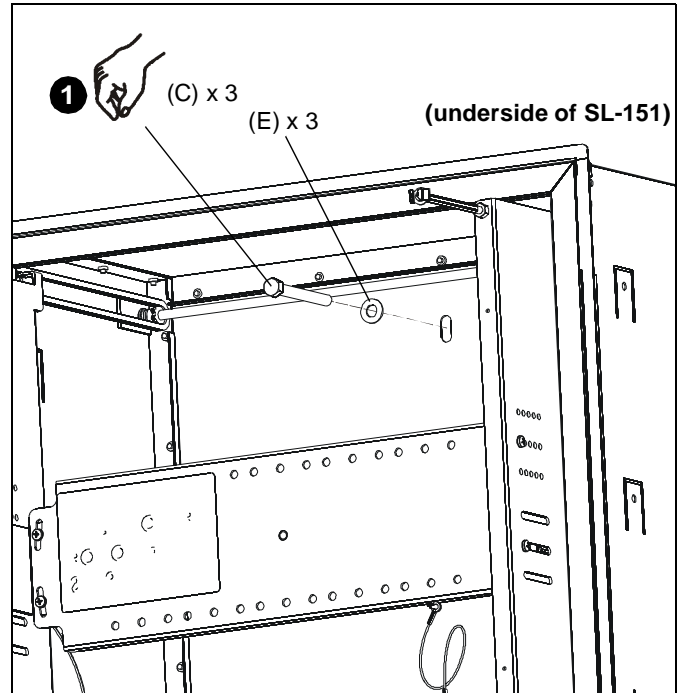

Figure 2
1. Insert a 3/8-16 x 3 1/2" hex head tap bolt (C) through a 3/8" washer (E) and through one of three holes on top of SL-151 lift. (See Figure 2)